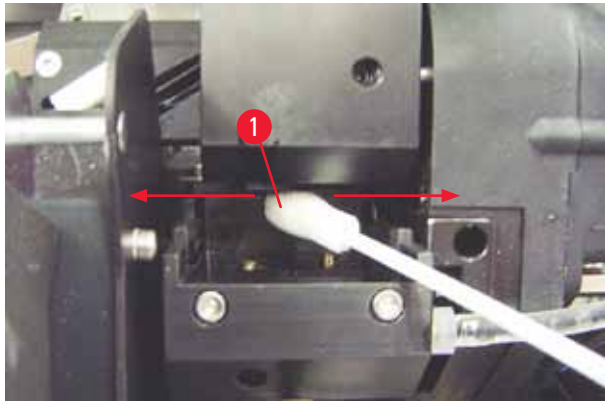

Fig. 51
5. Carefully insert the swab into the gap under the print head (→ "Fig. 51"). Apply light pressure upwards (on the print head) and move the foam swab back and forth (approx. 10 times). This procedure removes dried ink residues.